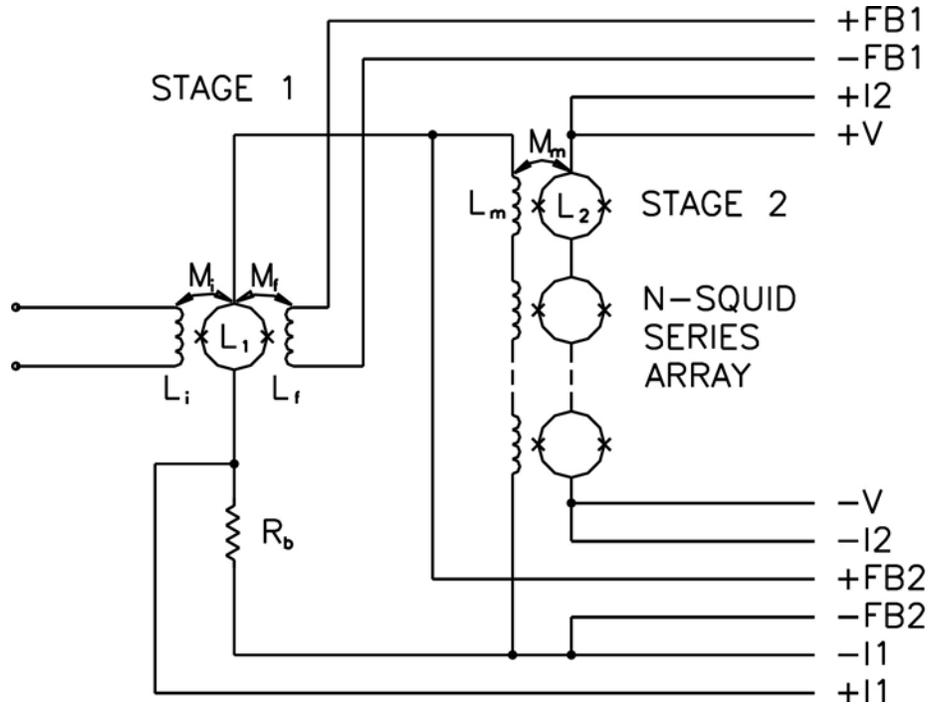

Figure 3-1 Schematic diagram of a typical two-stage SQUID amplifier.
The Programmable Feedback Loop Model PFL-102 is designed to operate two-stage SQUID amplifiers, which are available separately from STAR Cryoelectronics. Originally developed by Martinis and Welty,¹ the two-stage amplifier design is shown schematically in Figure 3-1. The low-noise SQUID in the input stage is voltage-biased using resistor R_b and SQUID bias current I_1 . The input SQUID is connected in series with the modulation coils of a series array of N identical, non-hysteretic SQUIDs in the output stage. The total inductance of the array modulation coils is NL_m .
1. To view the current-voltage characteristic of the input SQUID, set the S-BIAS control to zero, and the TEST INPUT control to “SQUID Bias”. For the SQUID bias test signal input, 1 V corresponds to a current of 200 μA through the bias resistor R_b (see Figure 3-1). To determine the actual current through the input SQUID, it is necessary to know the exact value of R_b . This may be done using the procedure discussed in Section 3.2.5.